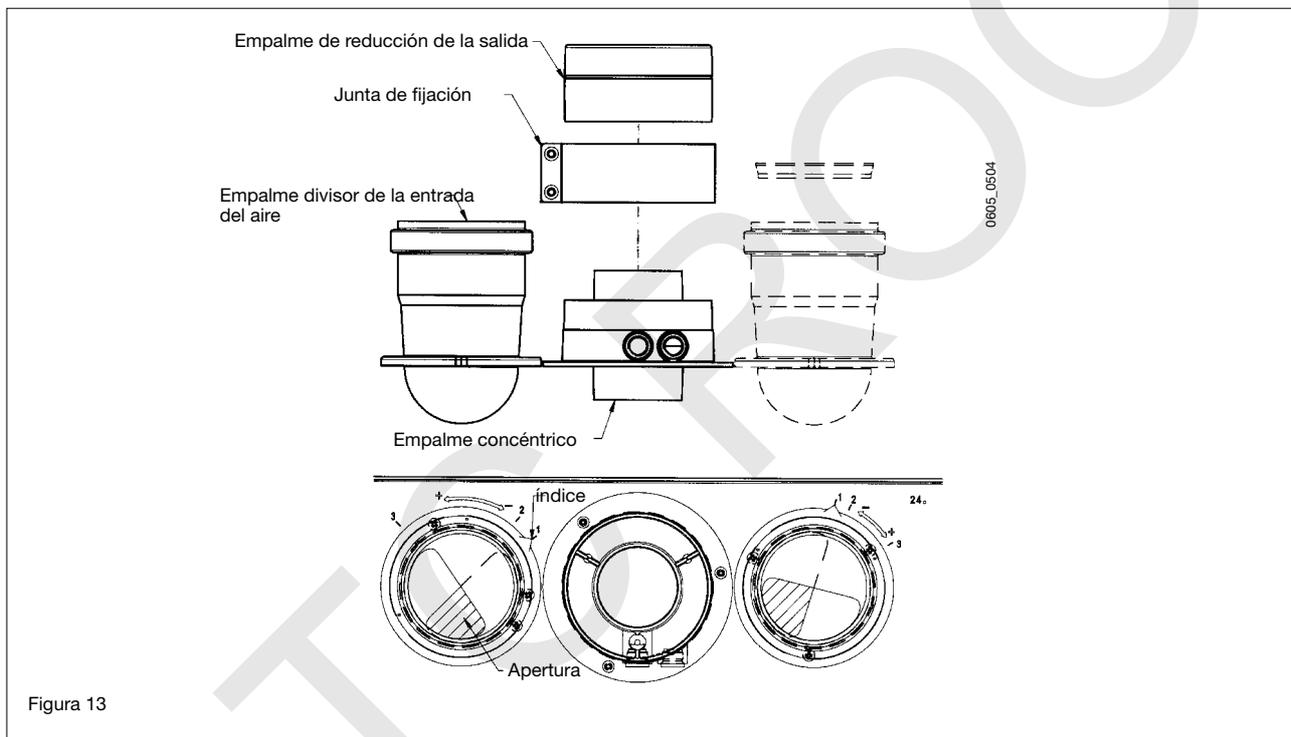

Figura 13
* Vea figura 13.
LONGITUD MAX (m)	DIAFRAGMA* (figura 13)